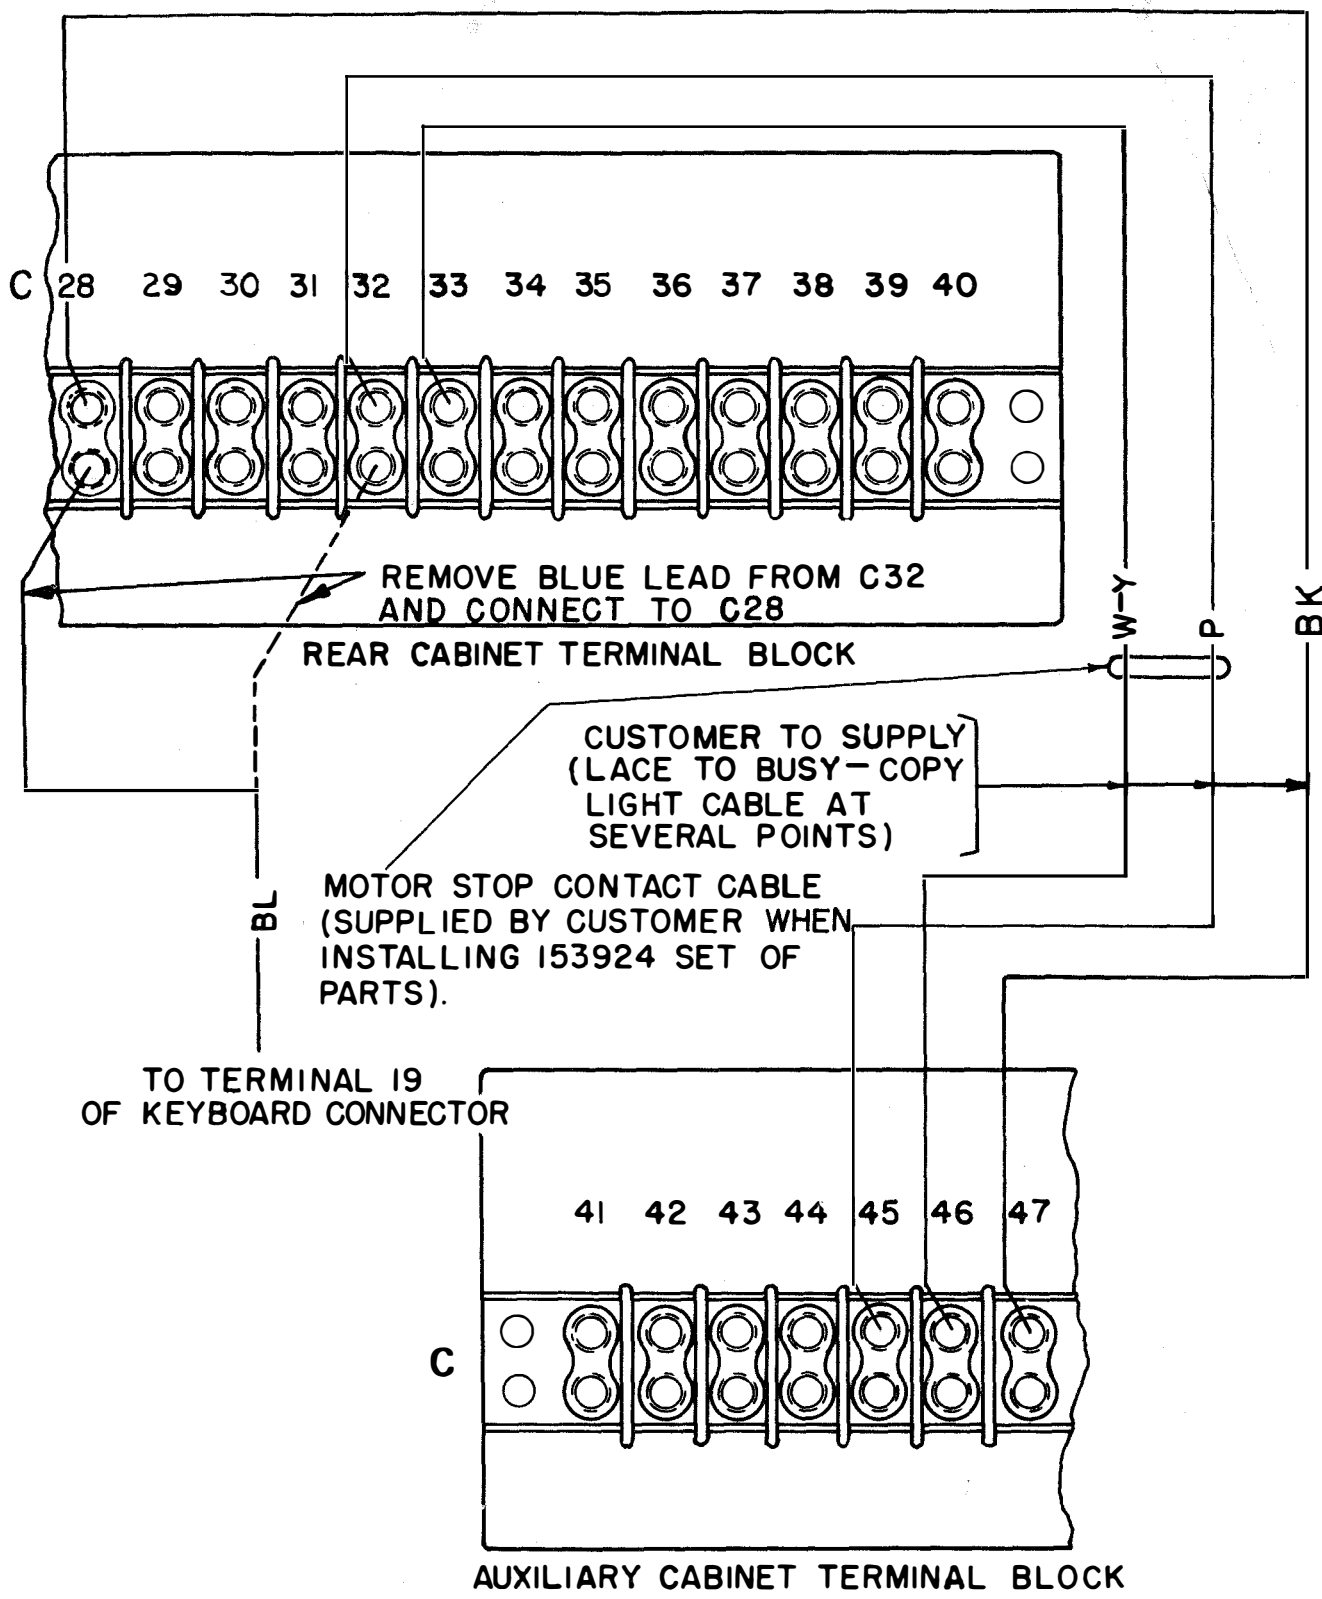

FIGURE 2
(29) Lace the 157105 cable to the present stunt box cable(s), routing the cable under the 154872 bracket.
(30) Connect terminals 45 and 46 of the auxiliary cabinet terminal block to terminals 32 and 33 respectively of the rear cabinet terminal block. See Figure 2.
(16) Connect terminal 47 of the auxiliary cabinet terminal block to terminal 28 of the rear cabinet terminal block. See Figure 2.